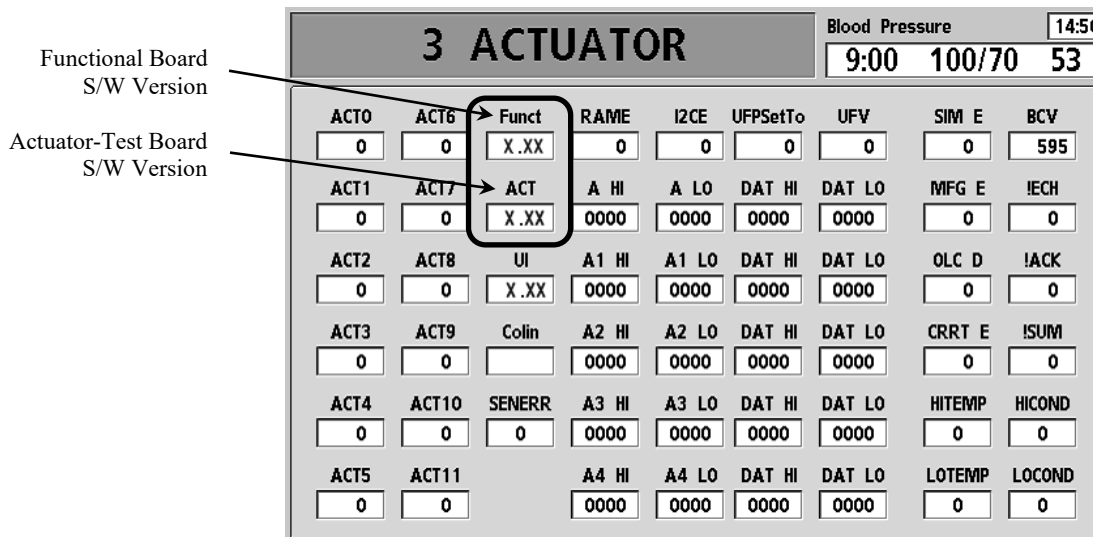

Figure 1
6. Using Figure 1 verify the Functional software version is 2.71 or greater and the Actuator-Test software version is 2.32 or greater. Press the **Escape** key to exit debug.